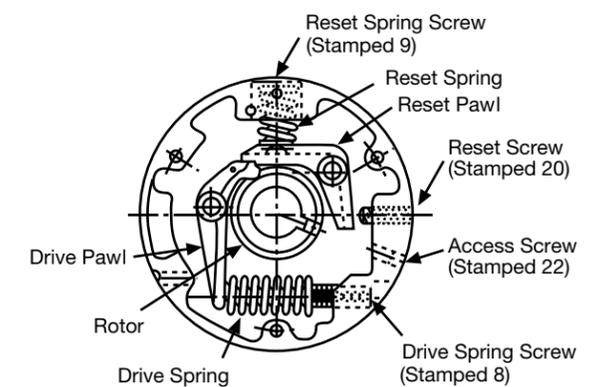

Figure 4
- a. After the overload condition has been corrected, rotate the drive until the rotor keyway is in alignment with the hole stamped 22 located on the outside diameter of the housing (See Figure 4).
- b. Reset the clutch by inserting a hex wrench into the reset screw (Stamped 20) shown in Figure 4, and turn the screw clockwise until the reset pawl releases the drive pawl. Refer to Table 5 for the proper wrench size.